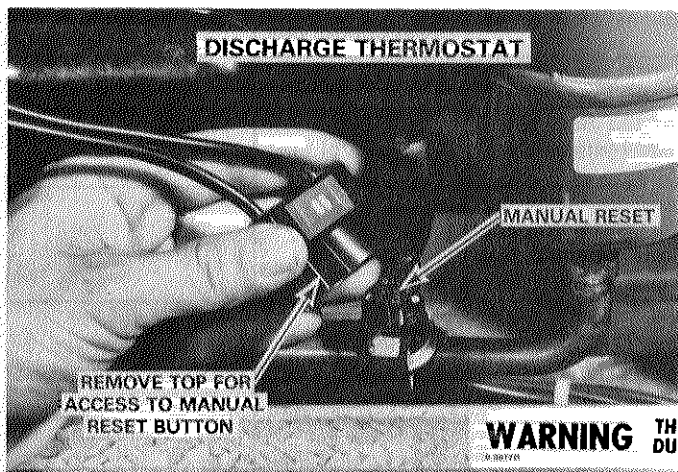

FIGURE 11
- 2 - Each refrigerant circuit includes a Discharge Temperature Limit Switch and a High Pressure Switch for compressor protection. The discharge switch opens at 260°F and must be manually reset when temperature drops below 225°F. The top of discharge switch must be removed for access to reset button. Refer to Figure 11. The pressure switch opens at 410 psig and must be manually reset.